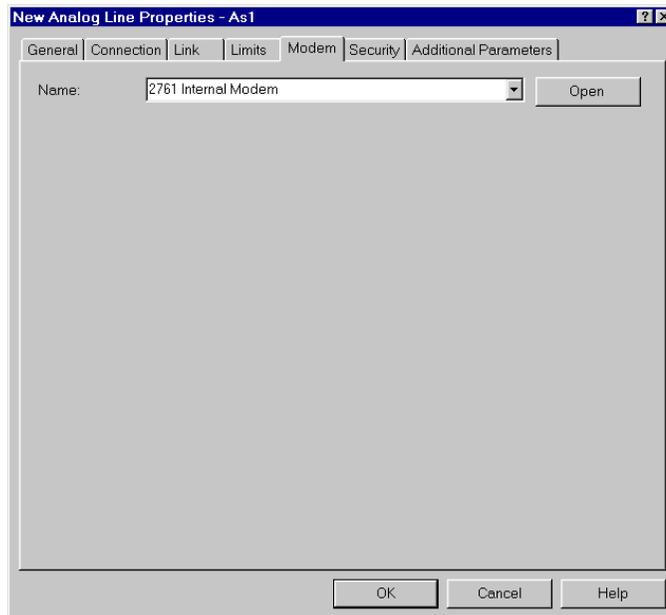

Figure 19. Selecting the 2761 Internal modem
7. Click the **Modem** tab (Figure 19 on page 30).